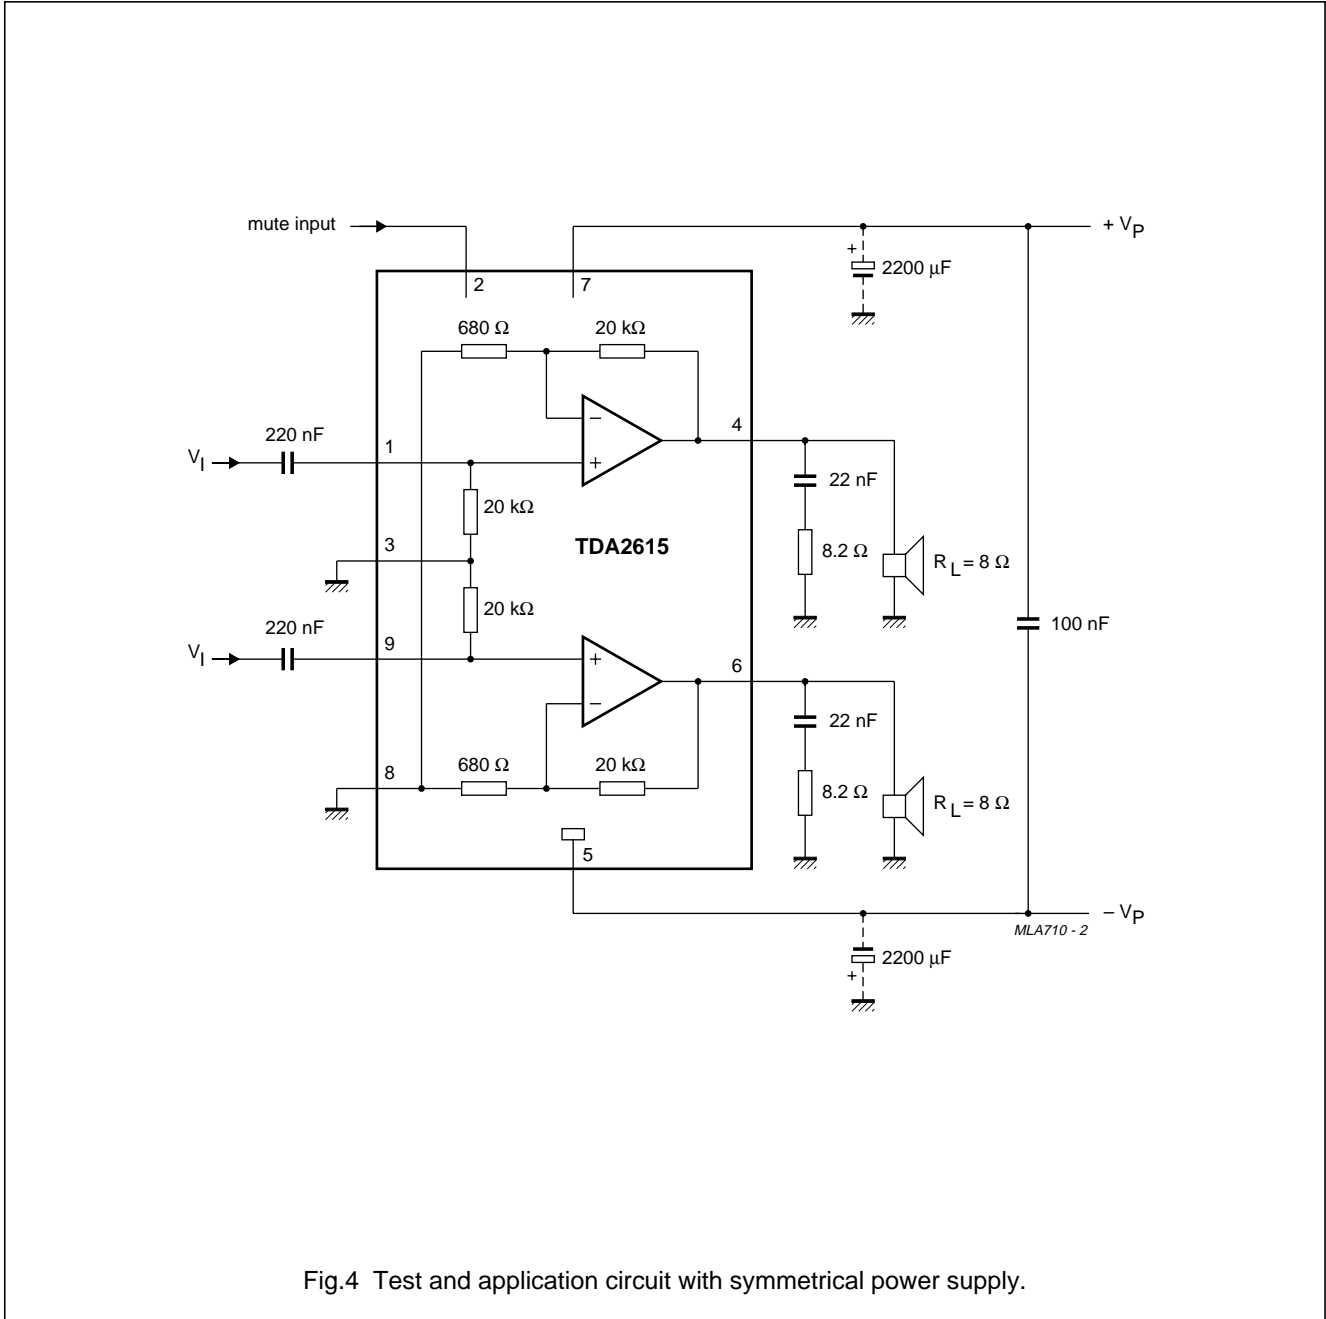

Fig.4 Test and application circuit with symmetrical power supply.
- $V_P = \pm 12 \text{ V}$ ;  $R_L = 8 \Omega$ ;  $T_{\text{amb}} = 25 \text{ }^\circ\text{C}$ ;  $f_i = 1 \text{ kHz}$ ; symmetrical power supply  $I_{\text{MUTE}} = < 30 \mu\text{A}$  (see Fig.4).
- $\pm V_P = 4 \text{ V}$ ;  $R_L = 8 \Omega$ ;  $T_{\text{amb}} = 25 \text{ }^\circ\text{C}$ ;  $f_i = 1 \text{ kHz}$ ; symmetrical power supply (see Fig.4).